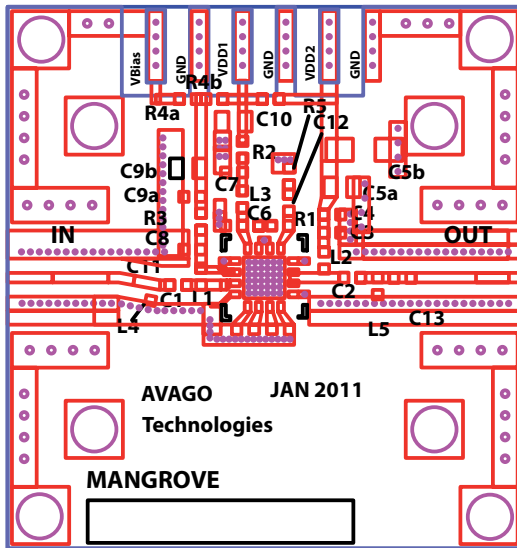

Figure 7. Demo Board layout diagram.
1. Measurements obtained using demo board described in Figure 7 with component list in Table 1. Input and Output trace loss is not de-embedded from the measurement.